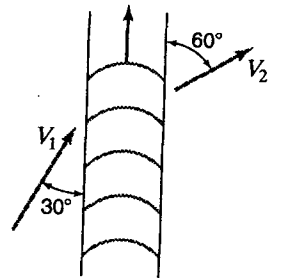

Figure P6.34
6.35 A 60-mm-diameter air jet impinges on a series of blades, entering smoothly, and having absolute velocities $V_1 = 60$ m/s and $V_2 = 45$ m/s as shown in Fig. P6.34. Assume $\gamma = 11$ N/m³, that the pressure is the same on both sides, and neglect friction. (a) What is the velocity of the blades and the power being transmitted to them? (b) Determine the blade angles necessary at entrance and exit.